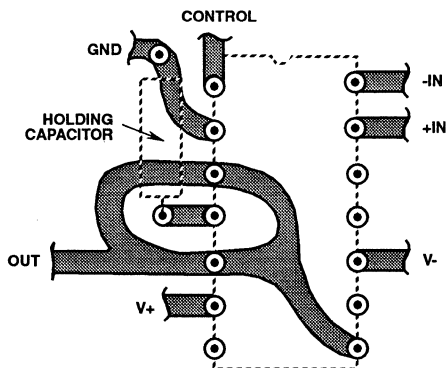

FIGURE 21. GUARD RING LAYOUT (BOTTOM VIEW)
2. The method used to reduce leakage paths on the P.C. board and the device package is shown in Figure 21. This guard ring is recommended to minimize the drift during hold mode.